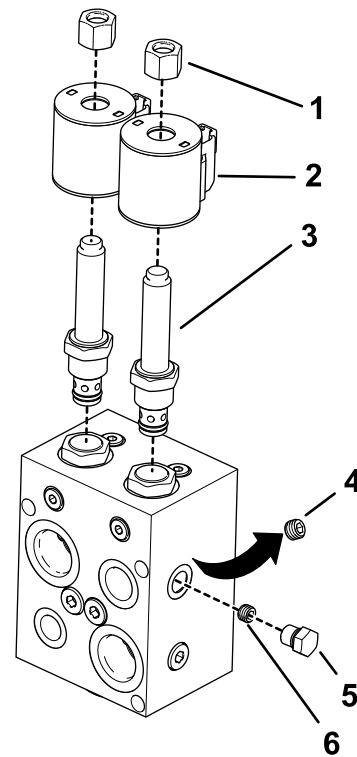

Figure 5
2. Install the appropriate parts to the flow-divider manifold as shown in Figure 5.